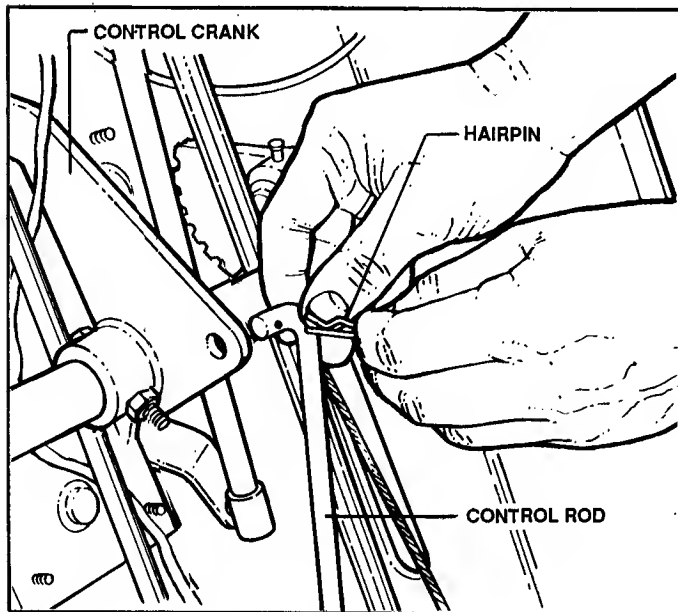

FIGURE 31
7. Remove hairpin from front of **CONTROL ROD**, then lower **CONTROL ROD**. See Figure 31.